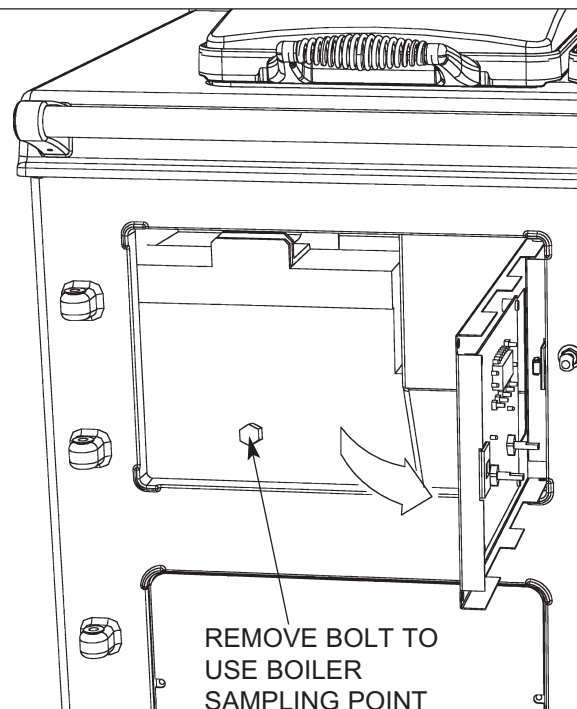

Fig. 22 - Rayburn 680KCD C/F shown
2. Remove plug from sampling point. (See Fig. 22).